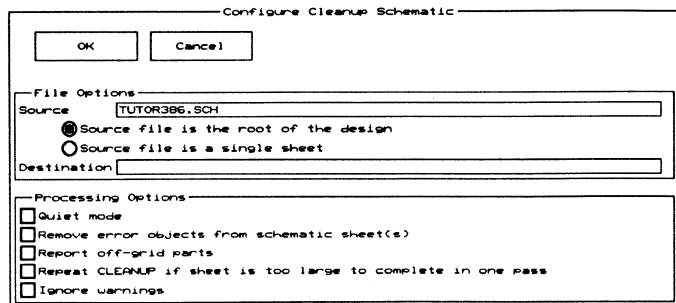

Figure 3-12. The *Configure Cleanup Schematic* screen.
2. Select **Configure CLEANUP**. The **Configure Cleanup Schematic** screen displays (figure 3-12).